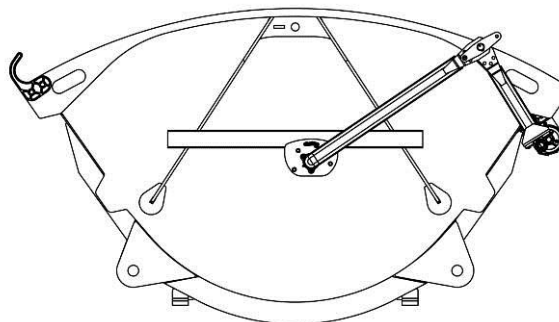
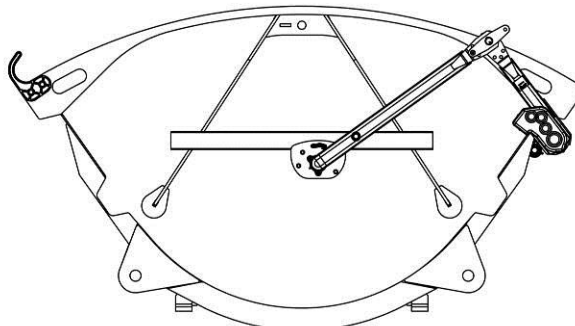

Figure 17
Figure 18
2. Locate the tarp clips and screws. Refer to figure 17 below.
1. Refer to fig. 17 to attach the tarp spool hooks to the top of the trailer on a passenger stowing tarp system and fig. 18 for a driver stowing system. These will determine where the tarp axle stops when it is deployed.